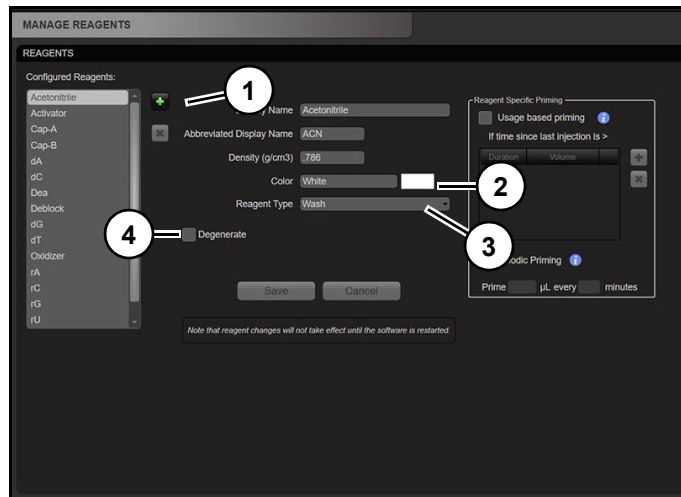

Figure 40
1. Click "+" (1) (Figure 40).
5. Click "OK" (4). Reagent will be added to configured reagents box.
6. Select reagent in reagent box to modify "Color" (2), "Reagent Type" (3) and "Degenerate" (4) reagent, if necessary. (Figure 40)